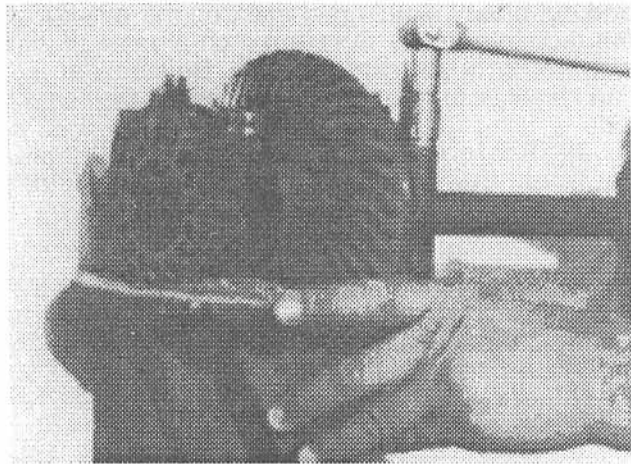

Figure 3
4. Remove the adjuster locks. (See Figure 3.) Be sure that each adjuster is marked at the lock with the correct number of punch marks for each side. The adjusters are not interchangeable after they are marked for position! (In general, the adjuster locks themselves are interchangeable.)
5. Remove the bearing caps (Figure 3).